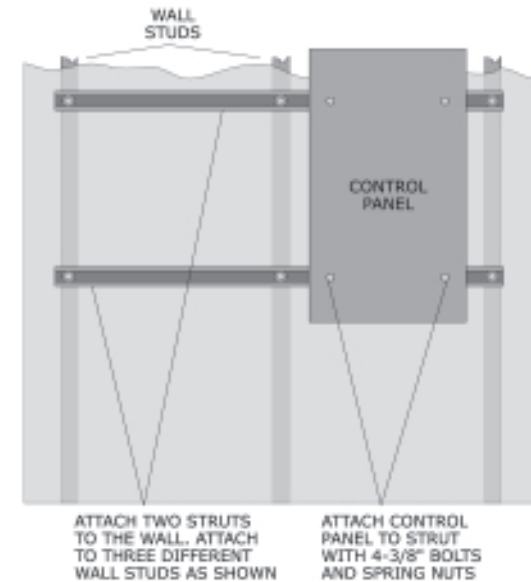

Figure 159: Direct attachment of a strut assembly support to wall.
- Walls with wall anchors as shown in Figure 159 (page 133).
- To attach strut to wall studs, see Figure 159 (above).